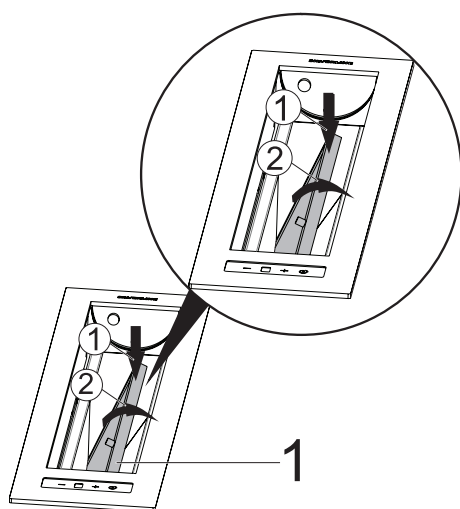

Fig. 11
- 10.** ■ Insert the aluminium metal filter inside the appliance via the holder on it (Fig. 11/1).
■ Lay down the aluminium metal filter towards the arrow and insert it in the appliance (Fig. 11/2)